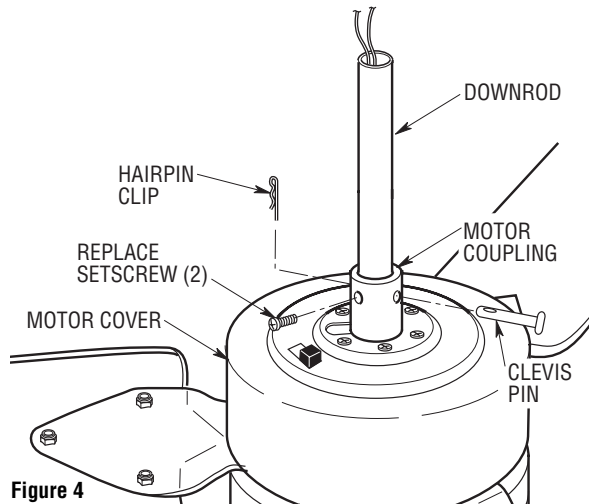

Figure 4
5. Separate, untwist and unkink the two motor leads, then route them through the hanger ball/downrod assembly and seat the downrod in the motor coupler (Figure 4).
6. Align the clevis pin holes in the downrod with the holes in the motor coupler. Install the clevis pin and secure with the hairpin clip (Figure 4). The clevis pin must go through the holes in the motor coupler. It is critical that the clevis pin in the motor coupler is properly installed and the setscrews securely tightened. Failure to verify that the pin and setscrews are properly installed could result in the fan falling.
7. Install two setscrews (previously removed in Step 2) in the motor coupler (Figure 4). While pulling up on the hanger ball, securely tighten both setscrews.
It is critical that the clevis pin in the motor coupling is properly installed and the setscrews securely tightened. Failure to verify that the pin and setscrews are properly installed (as shown in Figure 4) could result in the fan falling.